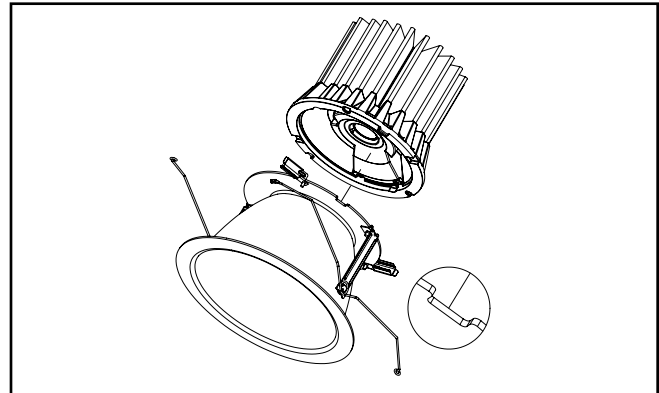

Figure 5
5. Insert LED engine on to trim assembly. Align post on LED engine with slot on trim assembly (Figure 5.).